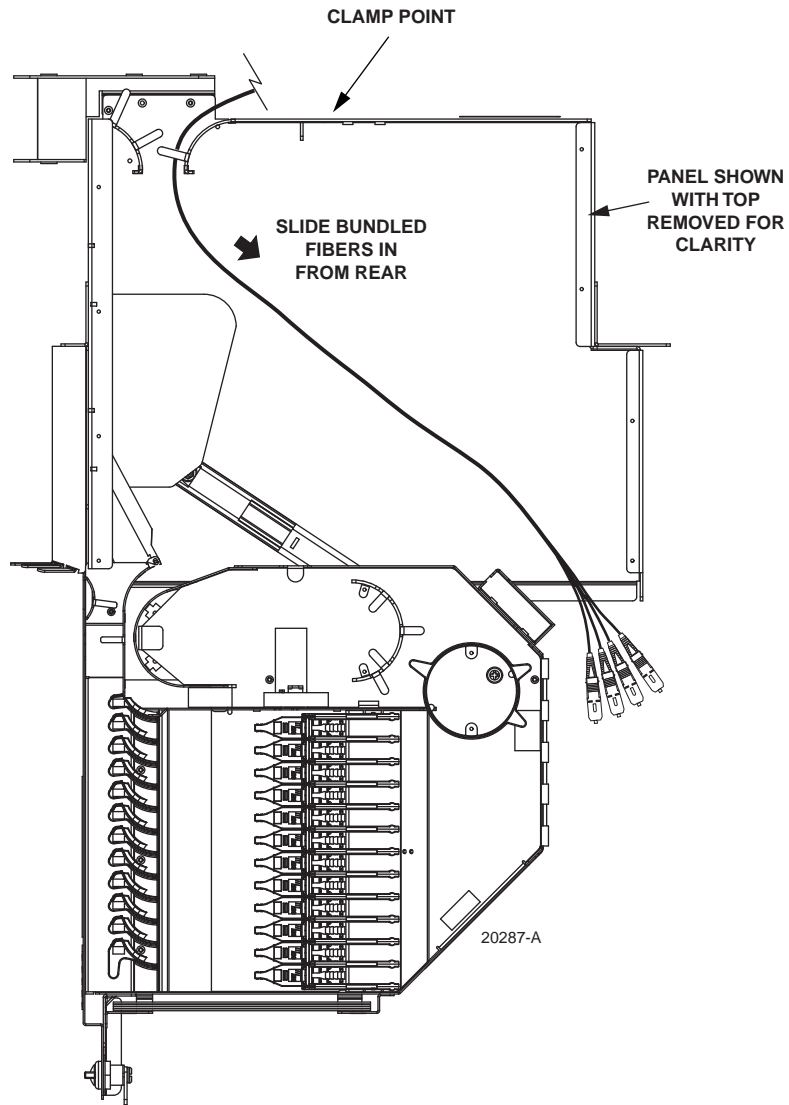

Figure 33. Routing Breakout Cable Into Standard Termination Panel
4. At the rear of the panel, insert the bundled connector end of the cable into the panel rear entry hole, as shown in Figure 33, and slide it through to the front.